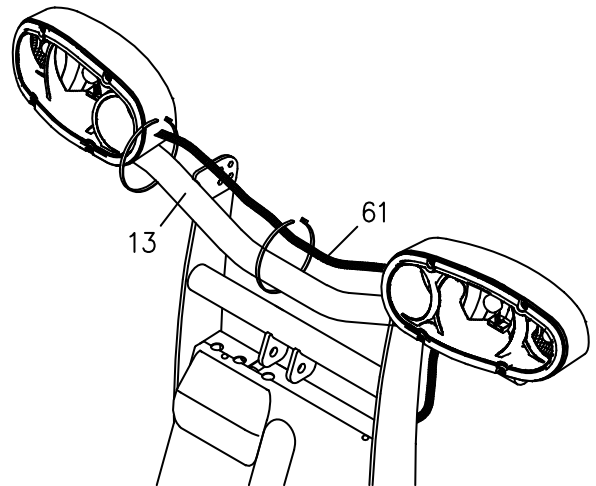

Figure 9. Securing Wiring Harness G10126
18. Secure Wiring Harness (61) to Light Bar (13) using wire ties as shown in Figure 9.